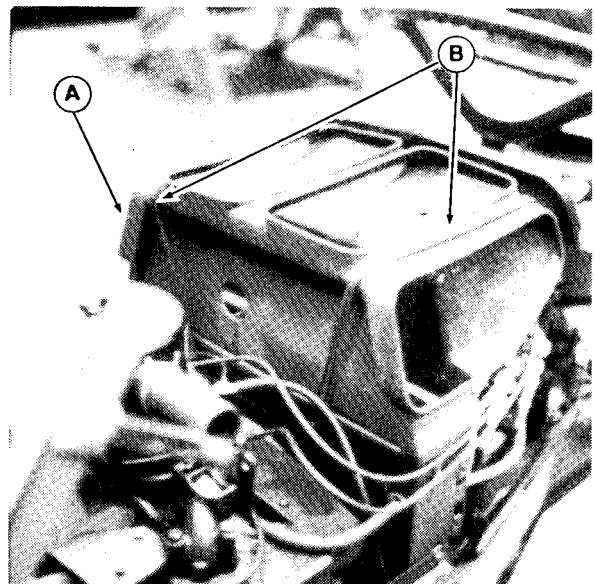

Figure 2.
3. On earlier models, unhook rubber straps (B, figure 2) and remove the plenum (A). On later models remove wing nut from retaining stud. Grasp center brace on plenum and push towards front of tractor until stud clears hole. Then remove plenum by pulling up.